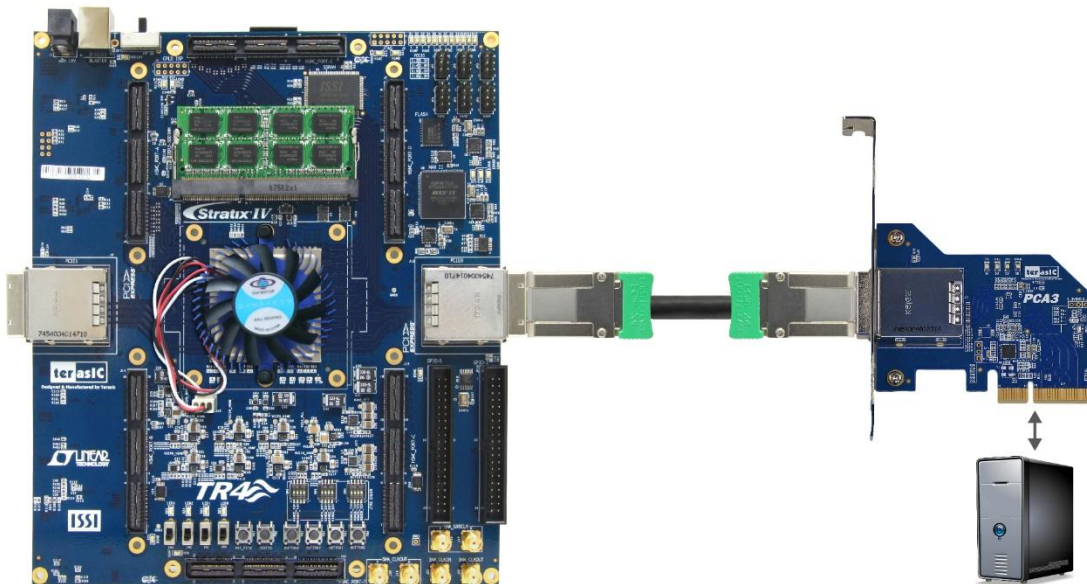

Figure 6-9 FPGA board connect to PC
1. Use the PCIe cable to connect to the TR4 PCIE0 connector and PCIe adapter card 3 (PCA3) as shown in **Figure 6-9**.